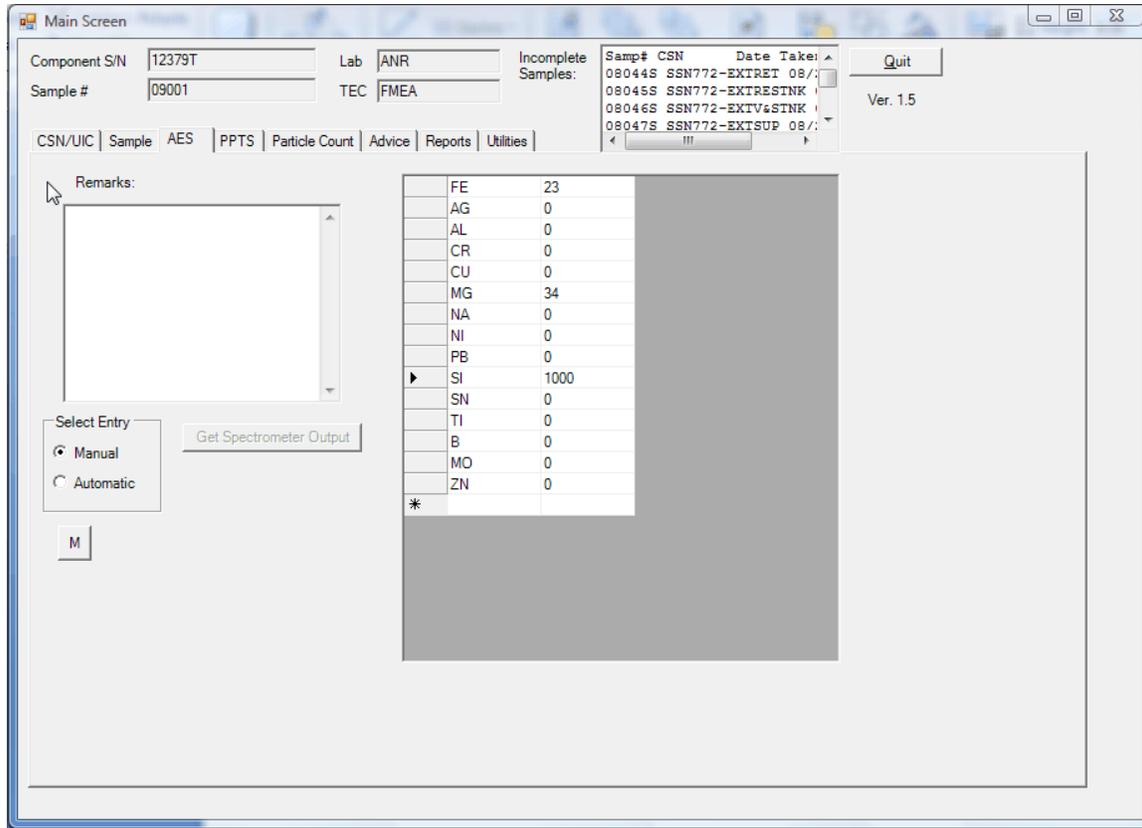

Figure 12. AES Manual Entry
- (2). If manual is selected, type the spectrometer data into the column to the right of the corresponding element. If you choose to add spectrometer data without completing the record press the M to save the data and select the next record in the incomplete box. (Figure 12)
- (3). If tests are completed press the "Advice" tab and skip to the advice page.